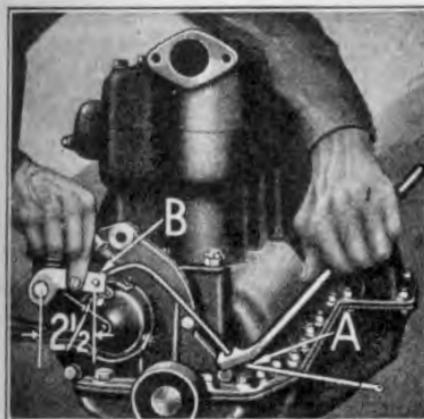

Fig. 100
**126 Install commutator pull rod** by inserting ends of rod through lead rod lever and commutator case; the rod is locked in position by means of two cotter pins, which are inserted through ends of rod (See "B" Fig. 24). When installing the commutator it is important that it is accurately set, as an incorrectly timed spark results in burned valves, knocking and broken parts. The method of setting the Ford commutator is to set it  $2\frac{1}{2}$ " from the center of the commutator case pull rod to center of commutator case spring bolt, with the spark lever fully retarded. The adjustment is made by bending the pull rod (See "A" Fig. 100). The use of a gauge "B" facilitates making the adjustment.